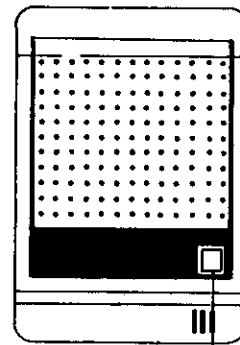

Figure 5 DOOR CHIME BOX, EK-616
- Press Door Chime key on Door Chime Box (Figure 5).